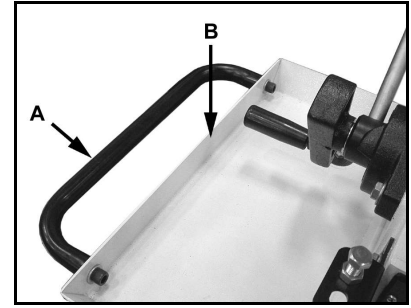

Fig 5
Unpack the handle (A, Fig 5), and attach the handle to the coolant pan (B) using two hex socket cap screws and washers.